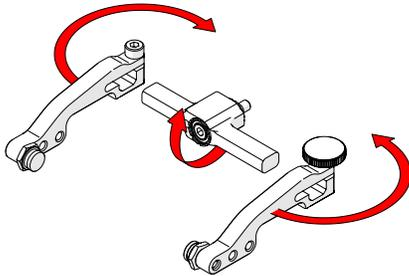

Fig. 117 - Flip yoke and reverse arms
3. Flip the yoke 180° and reverse the probe holder arms (Fig. 117).